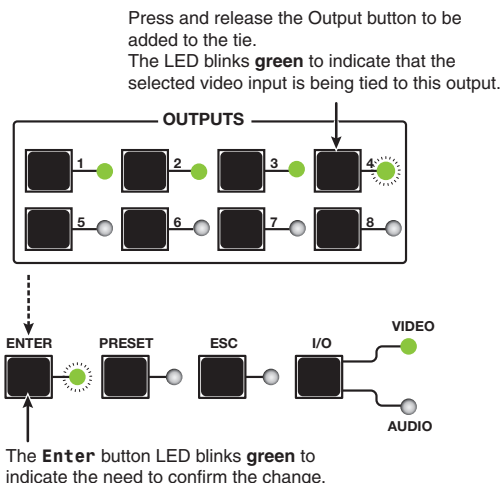

Figure 13. Selecting an Additional Output (Video)
4. Press and release the button for the output to be added to the tie. The LED for the selected output button blinks green (for video only, see figure 13) or red (for audio only) to indicate that the selected input is being tied to this output.